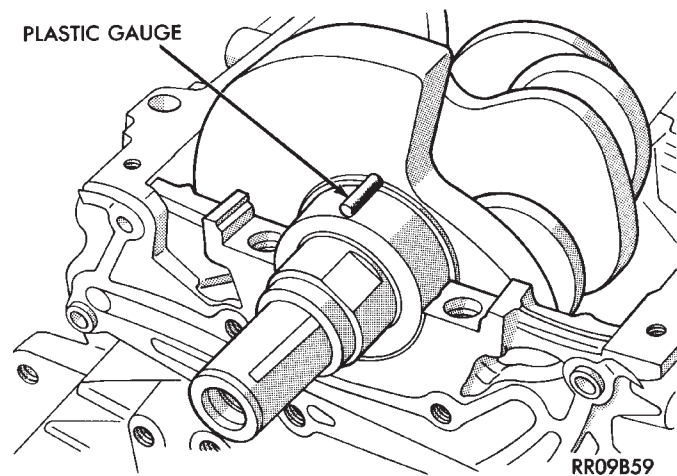

Fig. 7 Measure Oil Clearance with Plastigage
- (1) Remove oil from journal and bearing shell.
- (2) Install crankshaft.
- (3) Cut plastigage to same length as width of the bearing and place it in parallel with the journal axis. (Fig. 7).